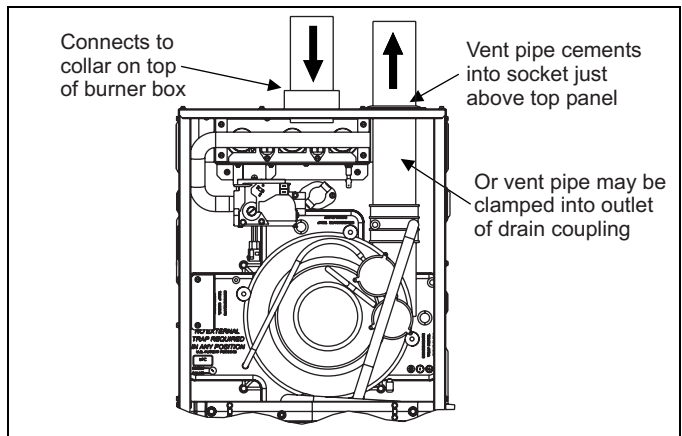

FIGURE 33: Direct Vent Air Intake Connection and Vent Connection
1. **OUTDOOR COMBUSTION AIR:** This is a direct vent configuration where the combustion air is supplied through a PVC or ABS pipe that is connected to the PVC coupling attached to the furnace and is terminated in the same atmospheric zone as the vent. This type of installation is approved on all models. Refer to Figure 33.
This installation requires combustion air to be brought in from outdoors. This requires a properly sized pipe (Shown in Figure 33) that will bring air in from the outdoors to the furnace combustion air intake collar on the burner box. The second pipe (Shown in Figure 33) is the furnace vent pipe.